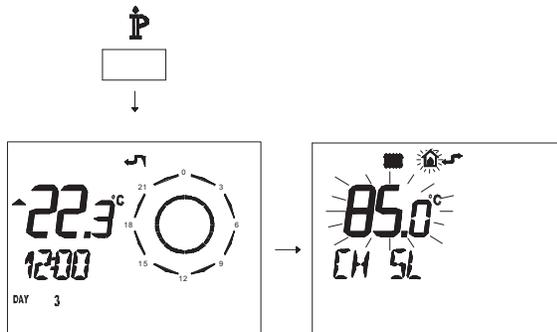

Fig. 7.22
- Press button **IP** for more than 3 seconds to enter in *INFO* (Fig. 7.22) mode.